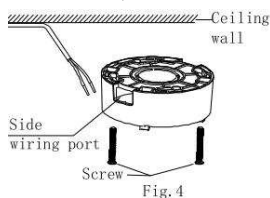

Fig. 4
(4) Or pass the wire through the side wire port and use screws to fix the mounting base to the ceiling wall. As shown in Fig. 4.